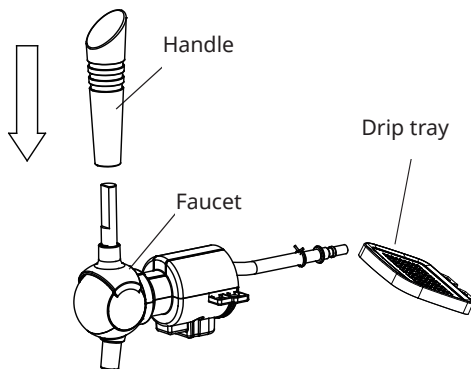

Figure 2
2. Install the tap handle connect the tap, make sure both ends fit together perfectly (see figure 2).
3. Press the button of the top lid part with a force of 60-80 N (as shown in Figure 2) to open the top lid of the beer machine, and then place the beer keg equipped with the wine dispenser in the cooling cavity of the beer machine (as shown in Figure 12), and connect the wine outlet connector of the tap to the interface of the wine dispenser (as shown in Figure 13).